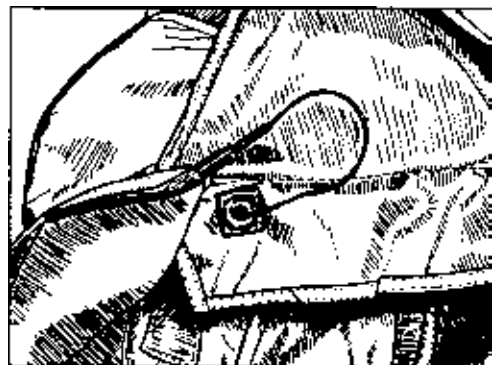

Figure 2
Step 4 Thread the cutter unit up through the grommet and then through the channel provided on the inside of the right reserve side flap. *Figure 2*